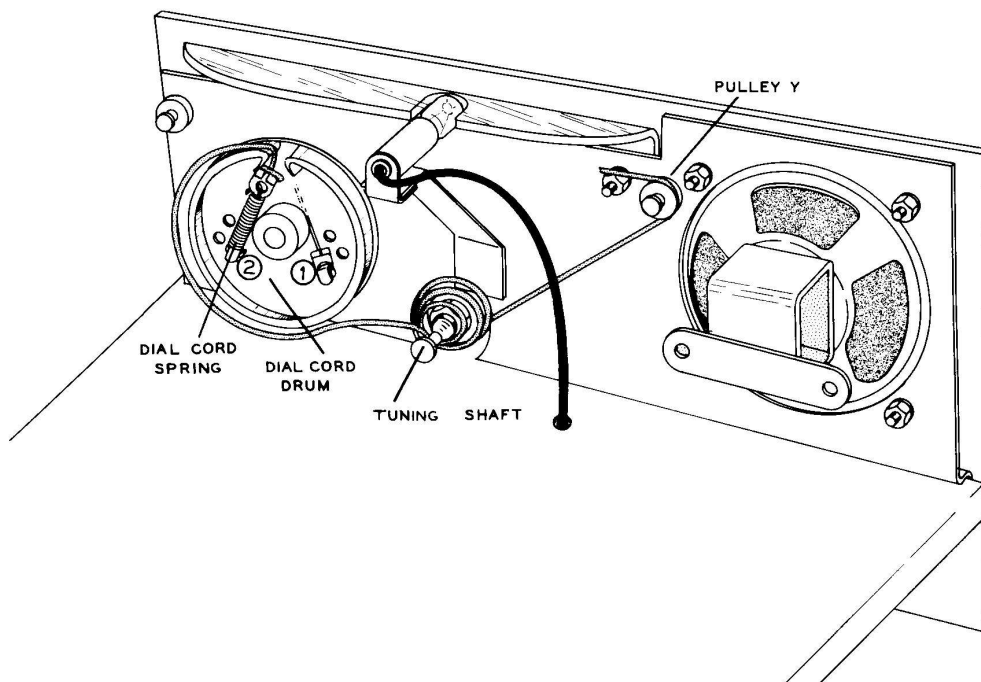

Figure 3R (2)
Refer to Figure 3R (1) for the following steps.
Refer to Figure 3R (2) for the following steps.
- (C) Now route the dial cord below the tuning shaft, and wrap it around the tuning shaft three times.
- (✓) Remove the pilot lamp socket from V5 tube socket hole (see Figure 3S). Now mount it on the dial light bracket so that the #47 lamp fits into the slot in the plastic dial window as it is shown in Figure 3R.